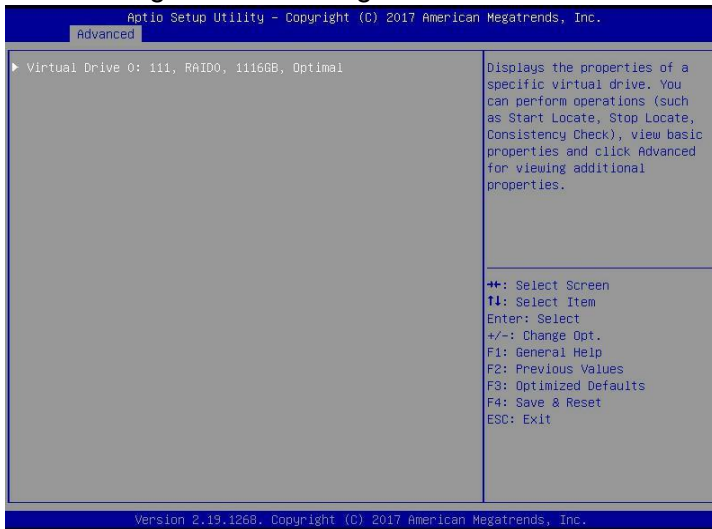

Figure 6-85
b) Enter the interface shown in Figure 6-85, select the logical disk to be erased, and press Enter.
❖ Figure 6-85 Logical Disk Management Interface